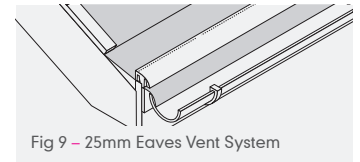

Fig 9 - 25mm Eaves Vent System
- 1 Install the roofing underlay over the support tray, with the leading edge set back from exposure. (Fig 9).